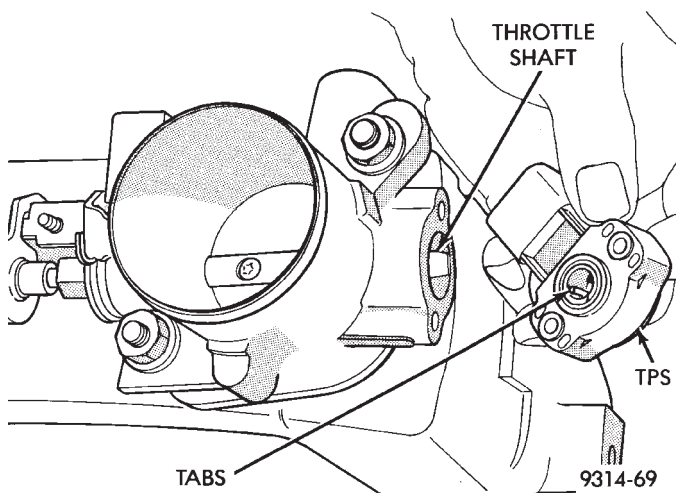
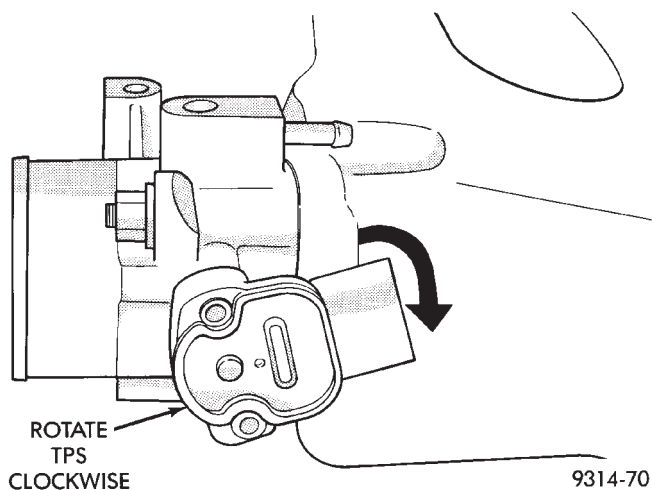

Fig. 70 Throttle Position Sensor Installation—3.5L Engine
Fig. 71 Rotate TPS Clockwise For Alignment—3.5L Engine
(1) The throttle shaft end of the throttle body slides into a socket in the TPS (Fig. 70). The socket has two tabs inside it. The throttle shaft rests against the tabs. When indexed correctly, the TPS can rotate clockwise a few degrees to line up the mounting screw holes with the screw holes in the throttle body (Fig. 71). The TPS has slight tension when rotated into position. If it is difficult to rotate the TPS into position, install the sensor with the throttle shaft on the other side of the tabs in the socket. Tighten mounting screws to 3 N·m (25 in. lbs.) torque.
(2) After installing the TPS, the throttle plate should be closed. If the throttle plate is open, install the sensor on the other side of the tabs in the socket.
- (3) Attach electrical connector to the TPS.